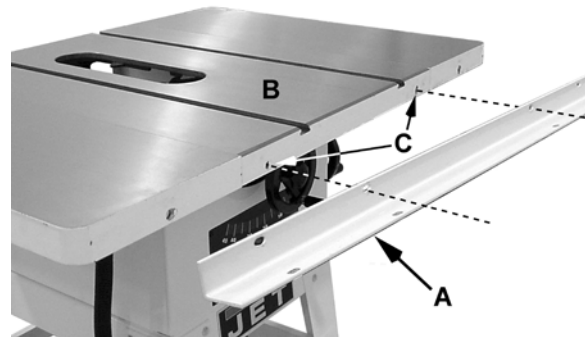

Figure 1
Referring to Figures 1:
1. With a 5/16" drill bit, drill out the two threaded holes on the *table front* (C).
2. Identify the *front rail* (A), which is 2" x 2" with slots running along each side.
3. Align the slots on the *front rail* to the four holes in the front edge of the saw table (Figure 1).